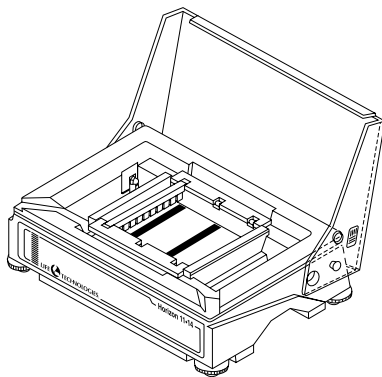

Figure 3. Gel Casting Configuration.
4. Insert a comb or combs into the preferred alignment slots of the UVT tray. The teeth of each comb should line up over one of the well-visualization strips. Ensure that each comb rests unobstructed and squarely in its slots. The apparatus is now ready for gel casting (figure 3).